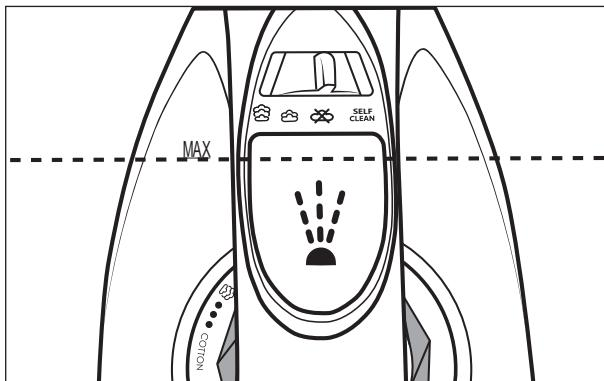

Fig. 1
- 3) Use the measuring cup **11** to fill the water tank **2** up to no more than the **MAX** marking (see fig. 1).